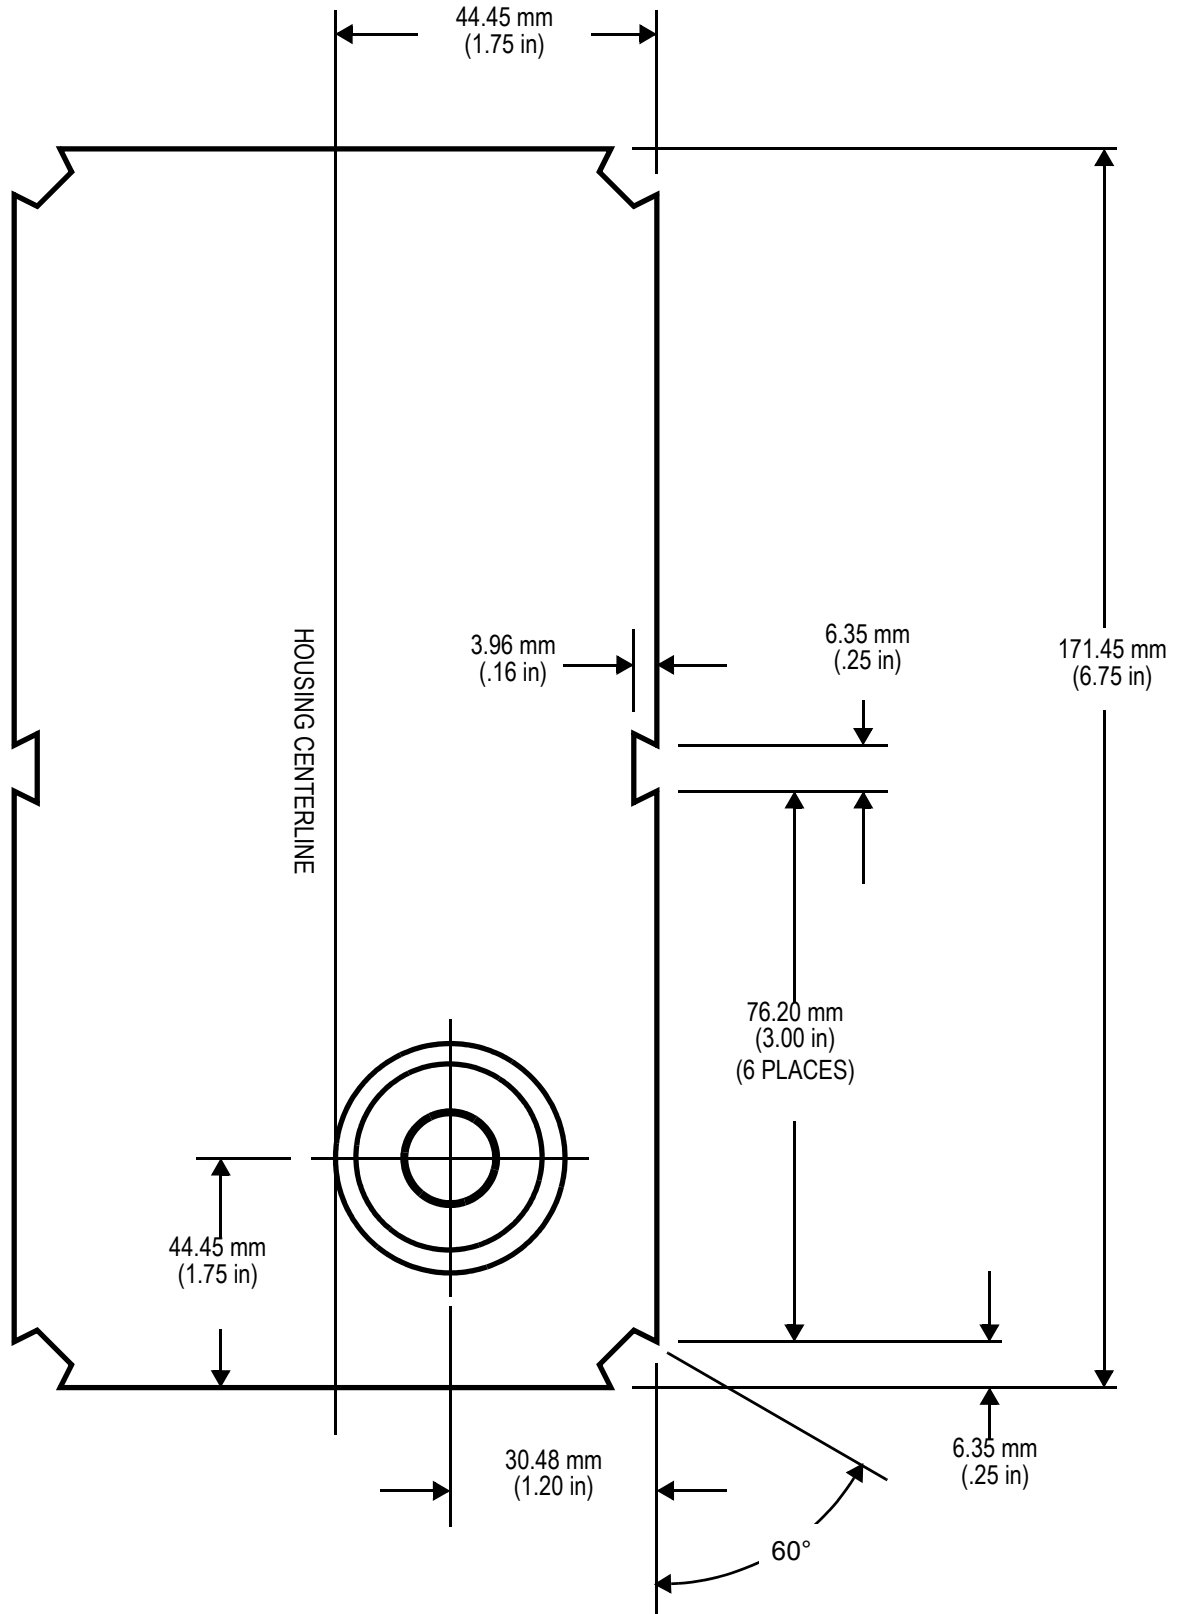
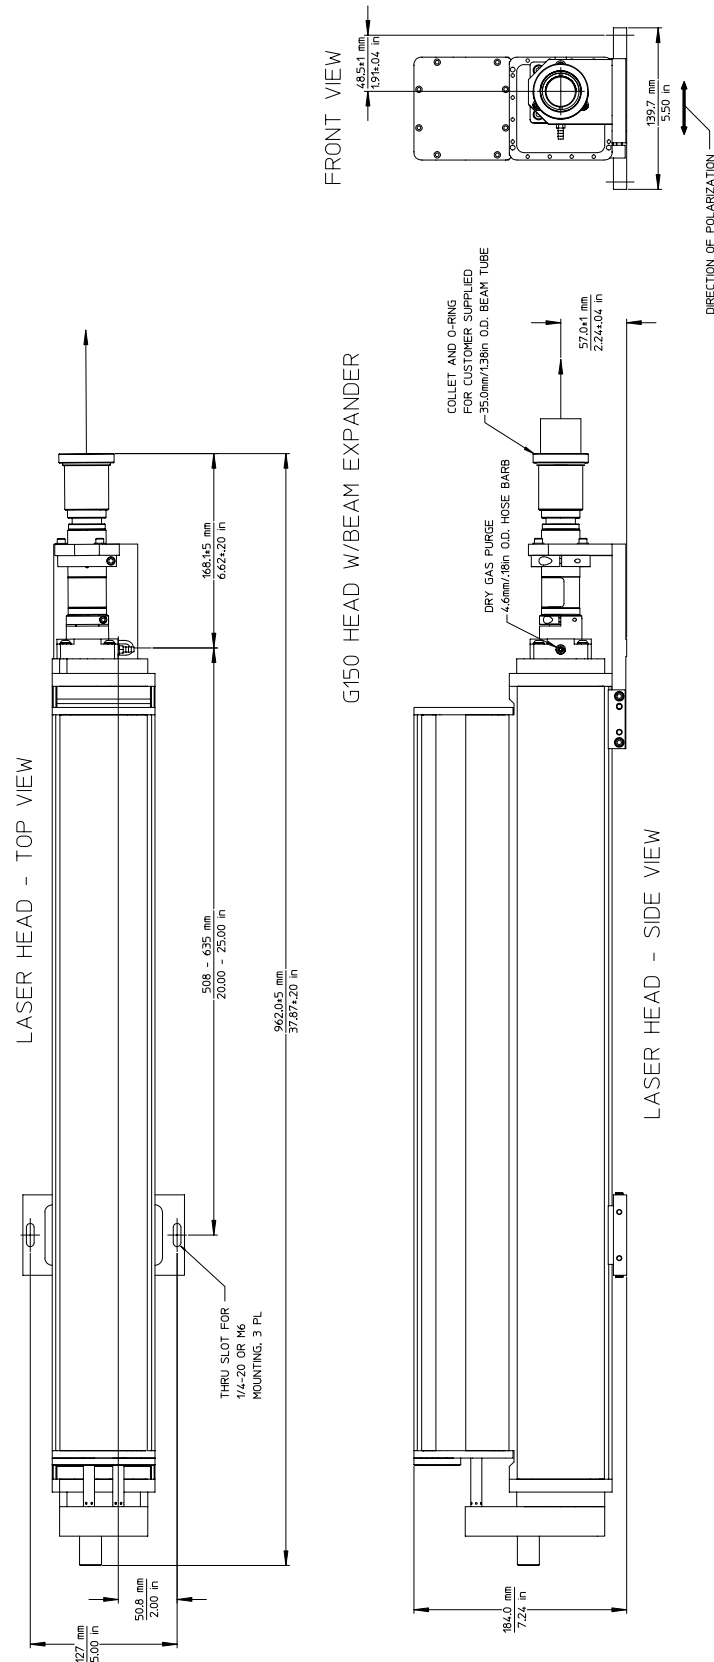

Figure 3-2. Alternative Laser Head Mounting Hardware Details
Figure 3-3. Laser Head Dimensions and Mounting Hardware Locations (w/Beam Expander)
- Laser head, Figure 3-3 and Figure 3-2